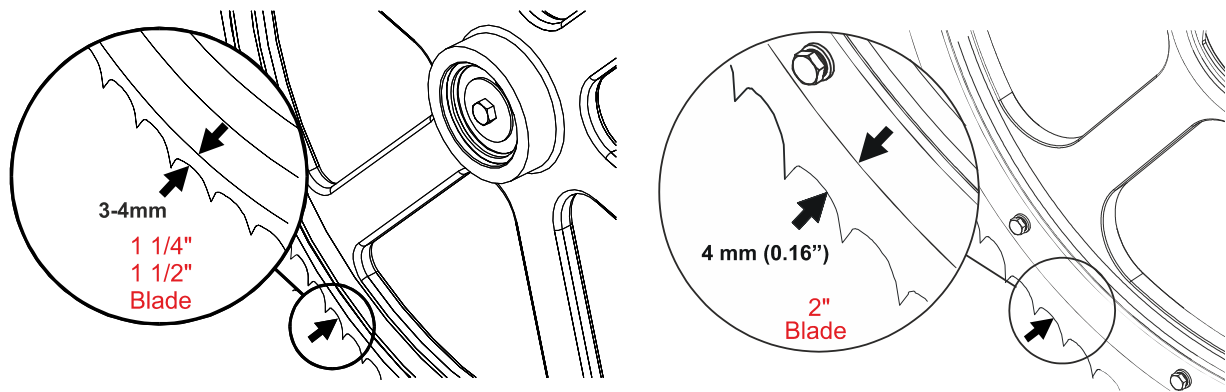

FIG. 2-17.
**See Figure 2-17.** Position 1 1/4" wide blades so the gullet is 1/8" (3.0 mm) out from the edge of the blade wheel ( $\pm 0,04$ " [1 mm]). Position 1 1/2", 2" blades so the gullet is 0,16" (4 mm) out from the edge of the blade wheel ( $\pm 0,04$ " [1 mm]).